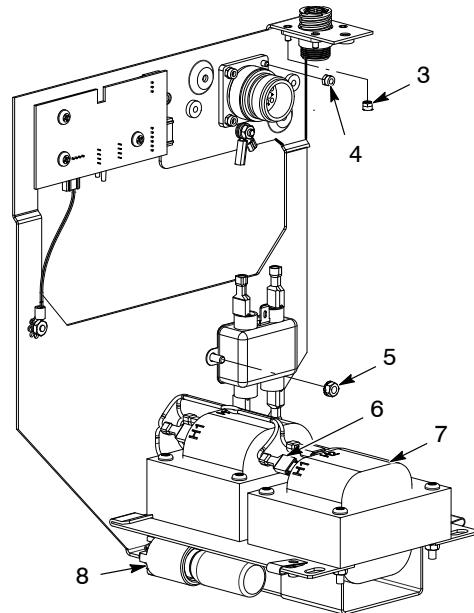

Figure 10 Removing Hardware and Faston Terminals
1. See Figure 10. Install new harness assembly connector, receptacle, and filter box with saved hardware.